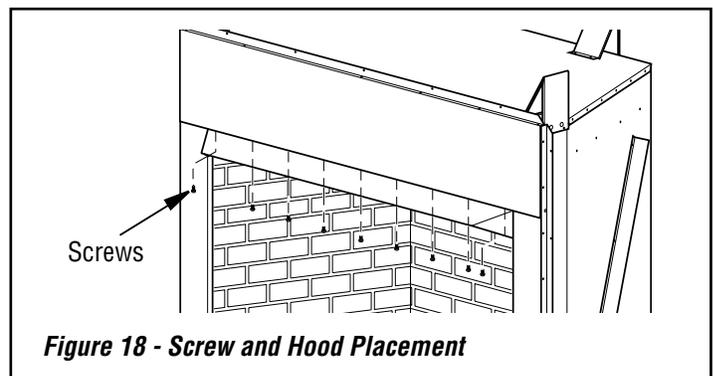

Figure 18 - Screw and Hood Placement
1. Attach hood to firebox using screws provided (see **Figure 18**).